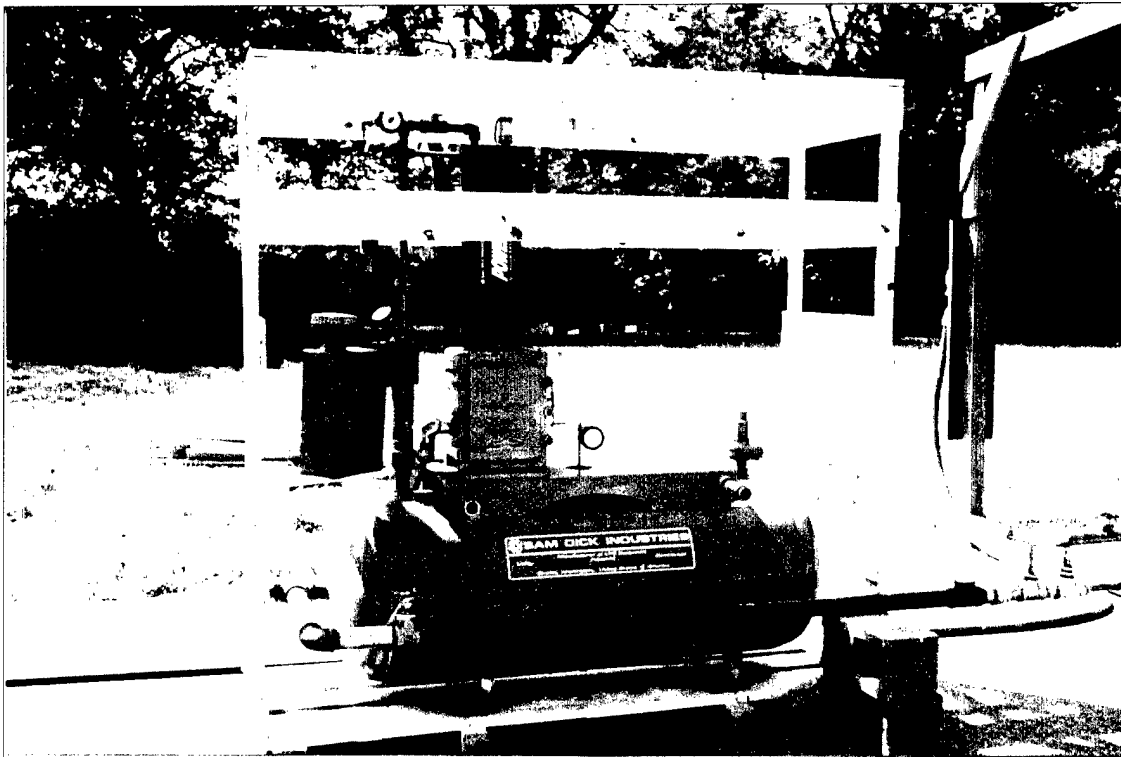

Figure 4-8. "Standby" air-propane mixing system.
**4.1.2.1 Apparatus.** The full size test was set up in the MFRI facility at the University of Maryland. The Sam Dick Industries XPV 2.5-15 model Standby LPG/air System used to mix the air and propane in approximately 50-50 by volume proportions is shown in Figure 4-8. When fuel of 100 percent propane was tested, the air intake on the device was closed with duct tape. When the air-propane mixture is withdrawn from the storage tank, the pressure inside the tank falls slightly, subsequently the device automatically resupplies more air-propane mixture. It is equipped with a complete set of safety devices.